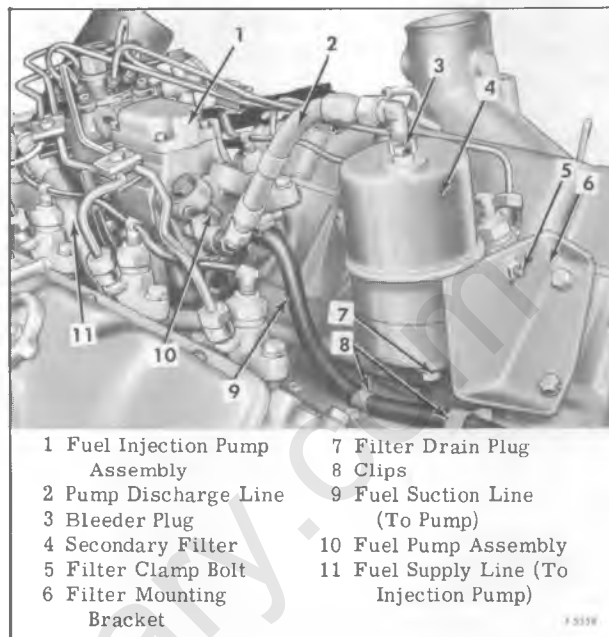

Figure 9—Fuel Secondary Filter and Connecting Lines
2. Remove the small hex bleed plug at the top of the secondary fuel filter (3, fig. 9) located on the engine.
4. Loosen fuel inlet line fitting at left side of pump hydraulic head (11, fig. 9). Pump hand primer and purge all air from line from secondary filter to hydraulic head. Tighten line nut.
8. After engine starts, set hand throttle for 1,000 engine rpm, then loosen bleeder plug at secondary filter (3, fig. 9) and allow any air in fuel lines to purge. Tighten bleeder plug.
4. Remove the small hex bleeder plug (3, fig. 9) from the top of the secondary filter which has been suspended.